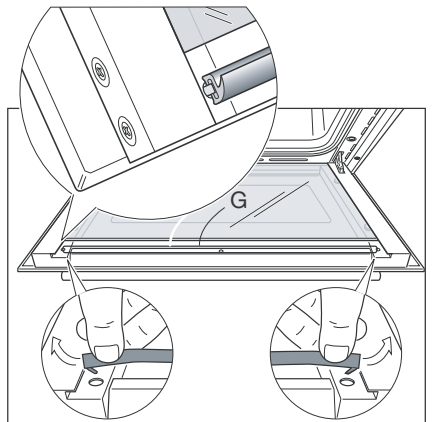

Fig.49d
- Replace the seal "G" by hooking in the two fixing hooks. Make sure that you put it in the correct way. (Fig. 49d).